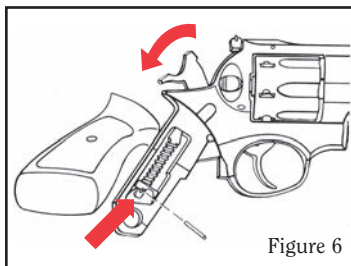

Figure 6
3. Cock the hammer. Insert disassembly pin about one half its length into the hole at the rear of the mainspring strut (see Figure 6).